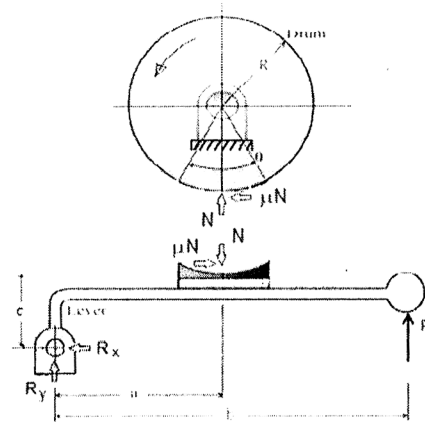

Fig. Q4b
- (b) For a single block brake (Fig. Q4b) following are some input data: i) torque capacity = 35 Nm, ii) $R = 400$ mm, iii) $a = 250$ mm, iv) $b = 550$ mm, v) $c = 80$ mm, vi) friction coefficient of lining with steel drum = 0.4 and vii) $\theta = 14.36^\circ$.